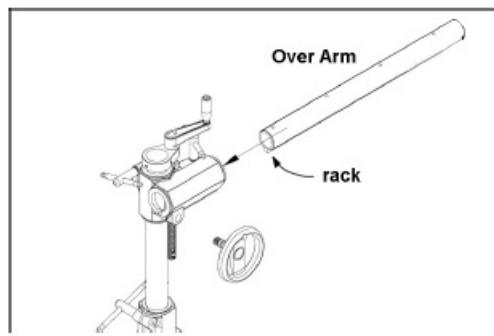

Figure 7
12. Slide the end of the over arm that has the rack extending all the way to the edge, into the bracket (Figure 7).